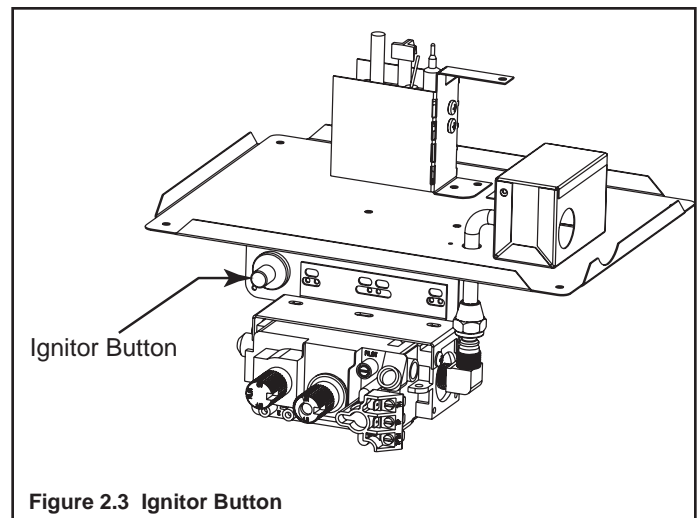

Figure 2.3 Ignitor Button
- A standing pilot ignition will have a red or black ignitor button (refer to Figure 2.3).